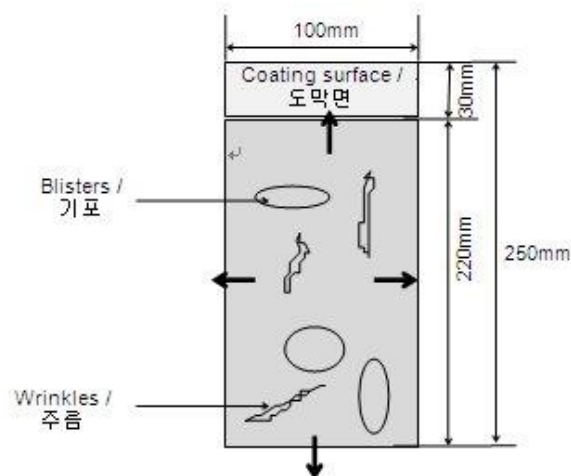

Figure 1: Film adhesion test piece /
3.3.1.3 In case of Paint Protective Film, for film attachment to the test piece, let at least 3 respective blisters (ø5mm) and wrinkles (20mm long) contained in the surface and have the film attach by rubbing it with a soft cloth in 4 directions as shown in Figure 1.